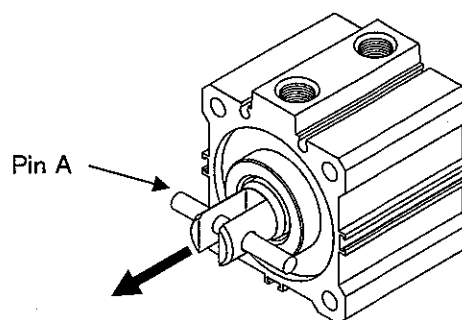

Fig. 7-19
#### (3) Disassembly (Fig. 7-19)